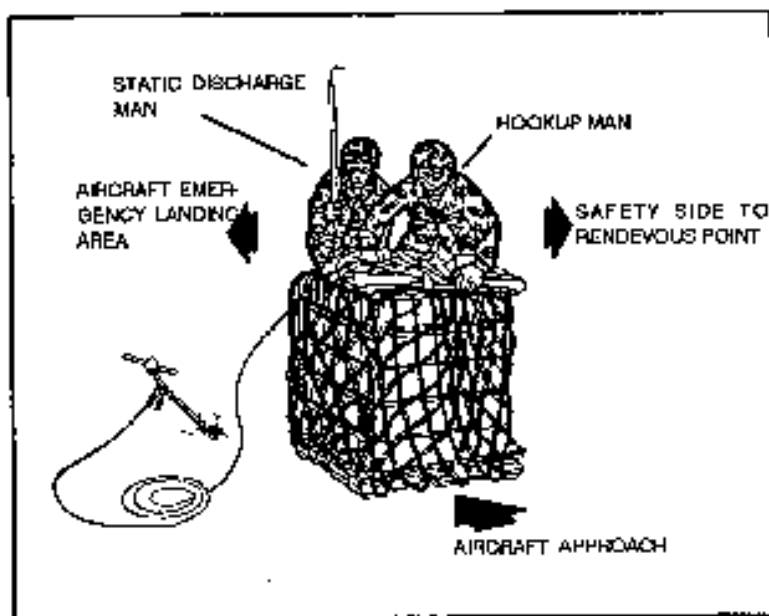

Figure 5-15. Hookup team's position.
- (1) Rig the load with a 20-foot or a 40-foot extension as required using 20-foot, 2- or 3-loop ADS, and the appropriate number of Type IV link assemblies. Place an apex fitting at the end of the extension.
- (2) Lay the extension to the *left* of the load, and the aircraft will approach normally then taxi to the location of the apex fitting and set down. Once the aircraft is on the ground, the hookup man moves to the aircraft and attaches the apex fitting to the cargo hook (Figure 5-15). The aircraft suspends the load normally and departs as directed by the GTA.